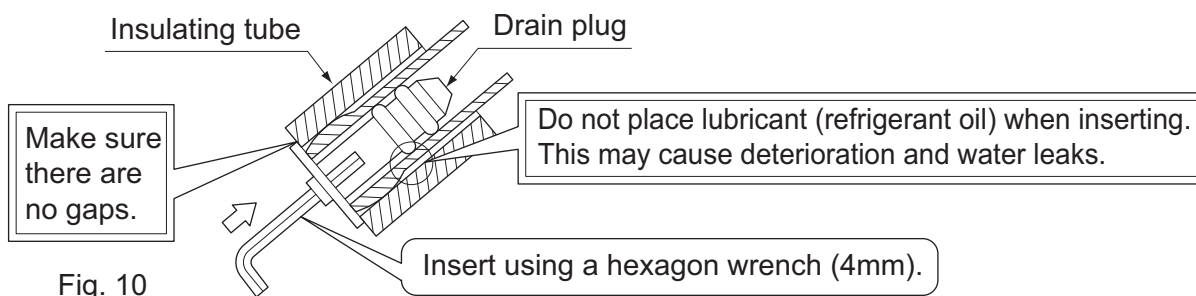

Fig. 10
- Remove the drain plug, the insulation tubing, and the drain hose from the drain pan and replace. **(Refer to Fig. 10)**
- Mold the local refrigerant piping ahead of time, matching it to the liquid pipe and gas pipe marks engraved on the installation panel (1).